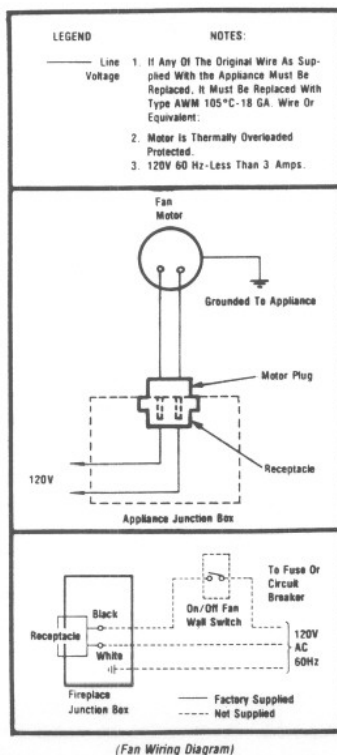

Figure 8
Step 6. If an optional forced air fan is to be installed now or at sometime in the future, the fireplace must be connected to the main power supply at this time. Route a 3 wire 120V 60Hz power supply line through a wall switch and to the junction box (located in the lower right side of the fireplace) and ground. Refer to Figure 8 and the installation instructions packed with the FAK-1500 forced air kit.